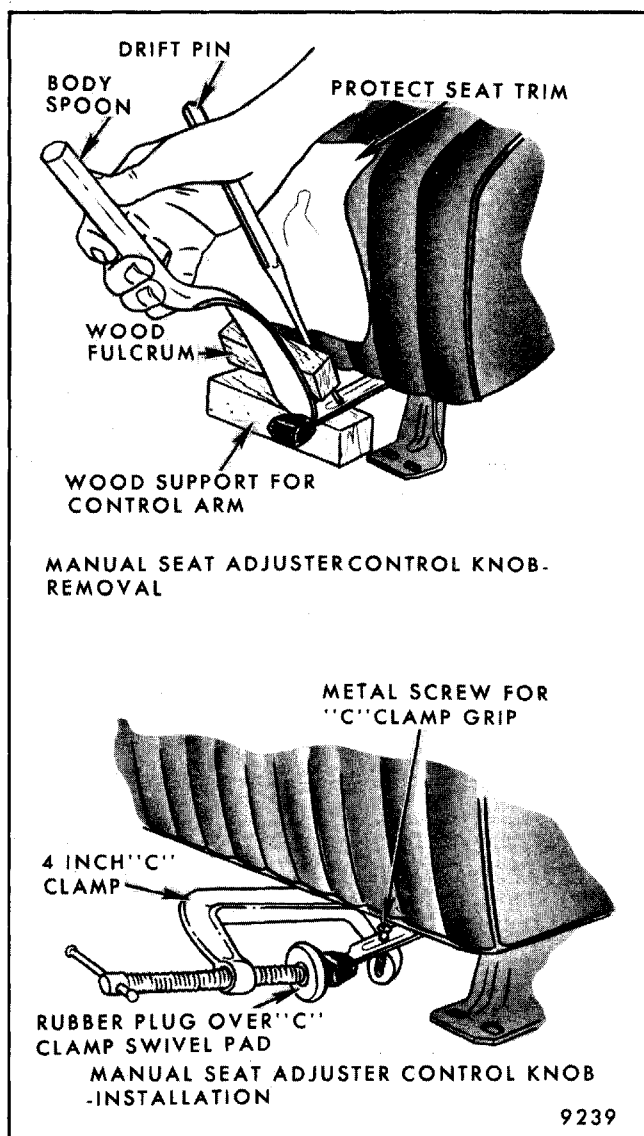

Fig. 9-42-Front Seat Adjuster Control Arm Knob - Removal and Installation
Manual seat adjuster control arm knobs are a press fit on the adjuster control arm. The knobs can generally be removed and reinstalled several times without losing adequate retention. If removing or installing a control knob on a trimmed seat assembly, place a protective cover over trim material in area of knob (see Fig. 9-42).
Using a heavy body spoon, a long drift pin and a piece of wood as a fulcrum as shown in Figure 9-42, carefully remove knob from adjuster control arm. Place a support under control arm to prevent bending arm.
3. Insert sheet metal screw or drift pin in hole provided in adjuster control arm and place C clamp in position as shown in Figure 9-42. Use round rubber plug (part no. 4802102 or